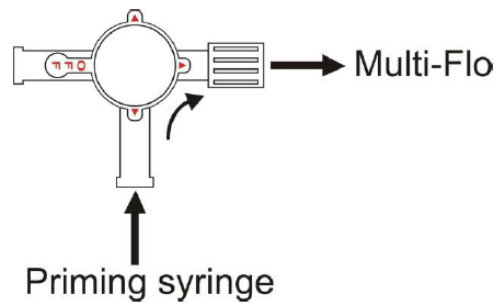

Figure 1
- a. Ensure that the 3-port valve is in the prime position as shown in figure 1 (see next page) then connect it to a Multi-Flo channel inlet.
- e. Connect the syringe to the 3-port valve as shown in figure 1 (see next page).